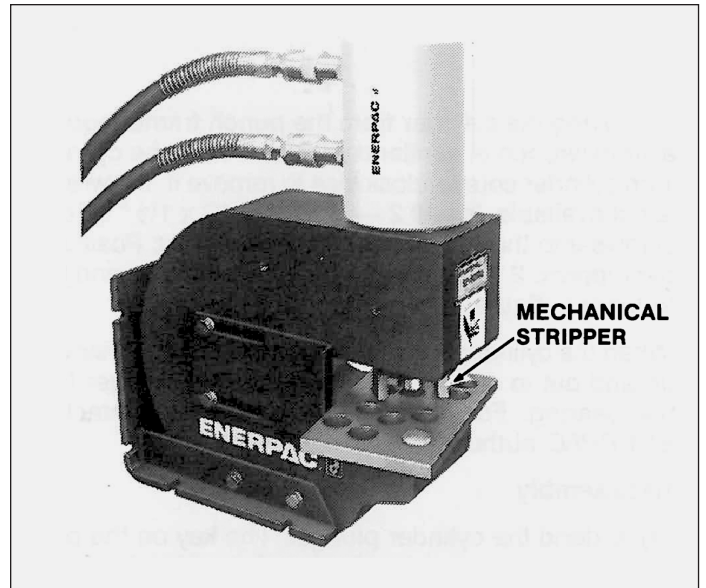

Figure 5
- Turn mechanical stripper (figure 5) until it touches the material, then turn $\frac{1}{2}$ turn counterclockwise.